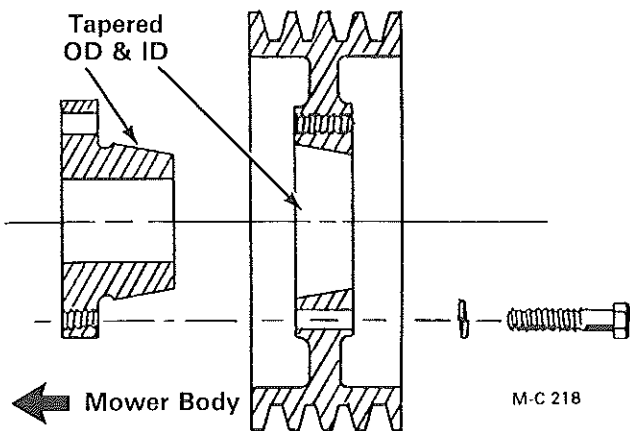

Figure 26
5. Place the bushing into the pulley from the rear so that the bushing flange is to the inside. see Figure 26. The bushing and the bore of the pulley are tapered. Be sure to install the bushing into the large ID of the pulley tapered bore. If the bushing is installed into the small ID of the pulley, the pulley hub will crack when the mounting capscrews are tightened.